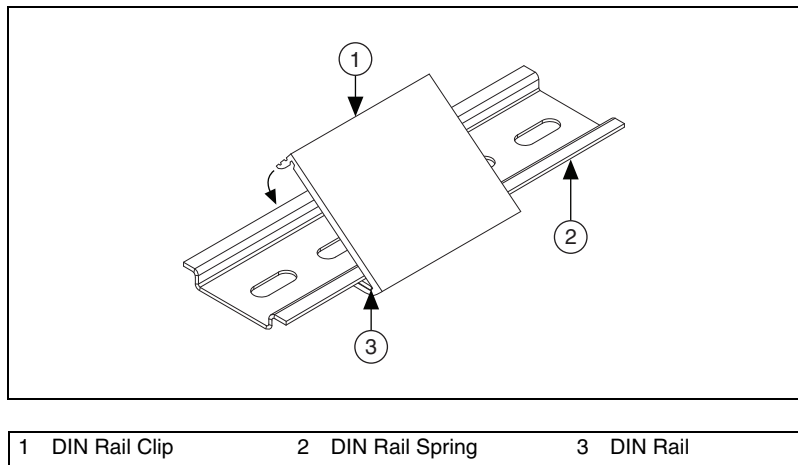

Figure 5. Attaching the DIN Rail Clip to the DIN Rail
5. Clip the chassis and DIN rail clip assembly to the DIN rail, as shown in Figures 5 and 6.